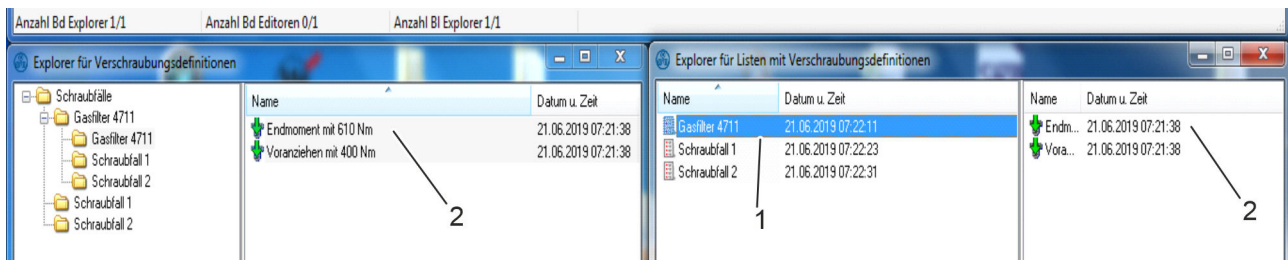

Fig. 29: Browser for bolting definition lists
To do so, create a list (Fig. 29/1).
7. Copy the desired bolting definitions (Fig. 29/2) from the folder on the left to the sync folder on the right.